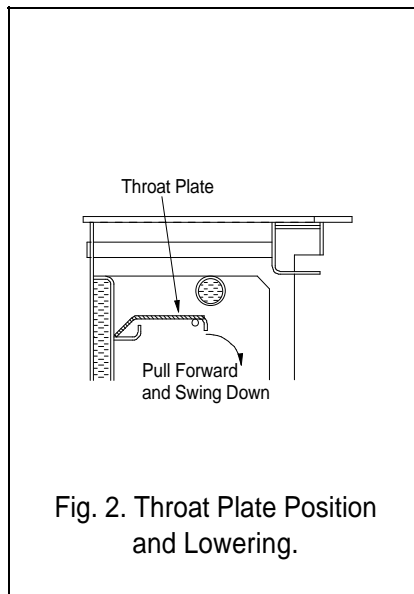

Fig. 2. Throat Plate Position and Lowering.
The front of the throat plate is pulled forward and then lowered as shown in Fig. 2. Any sooty deposits should then be swept from the plate and into the fire.
After clearing any soot from within the stove, replace the throat plate (see Fig. 2.) and the front fence.
- b) the throat plate is fitted correctly (see Fig. 2.) and that it is not distorted.